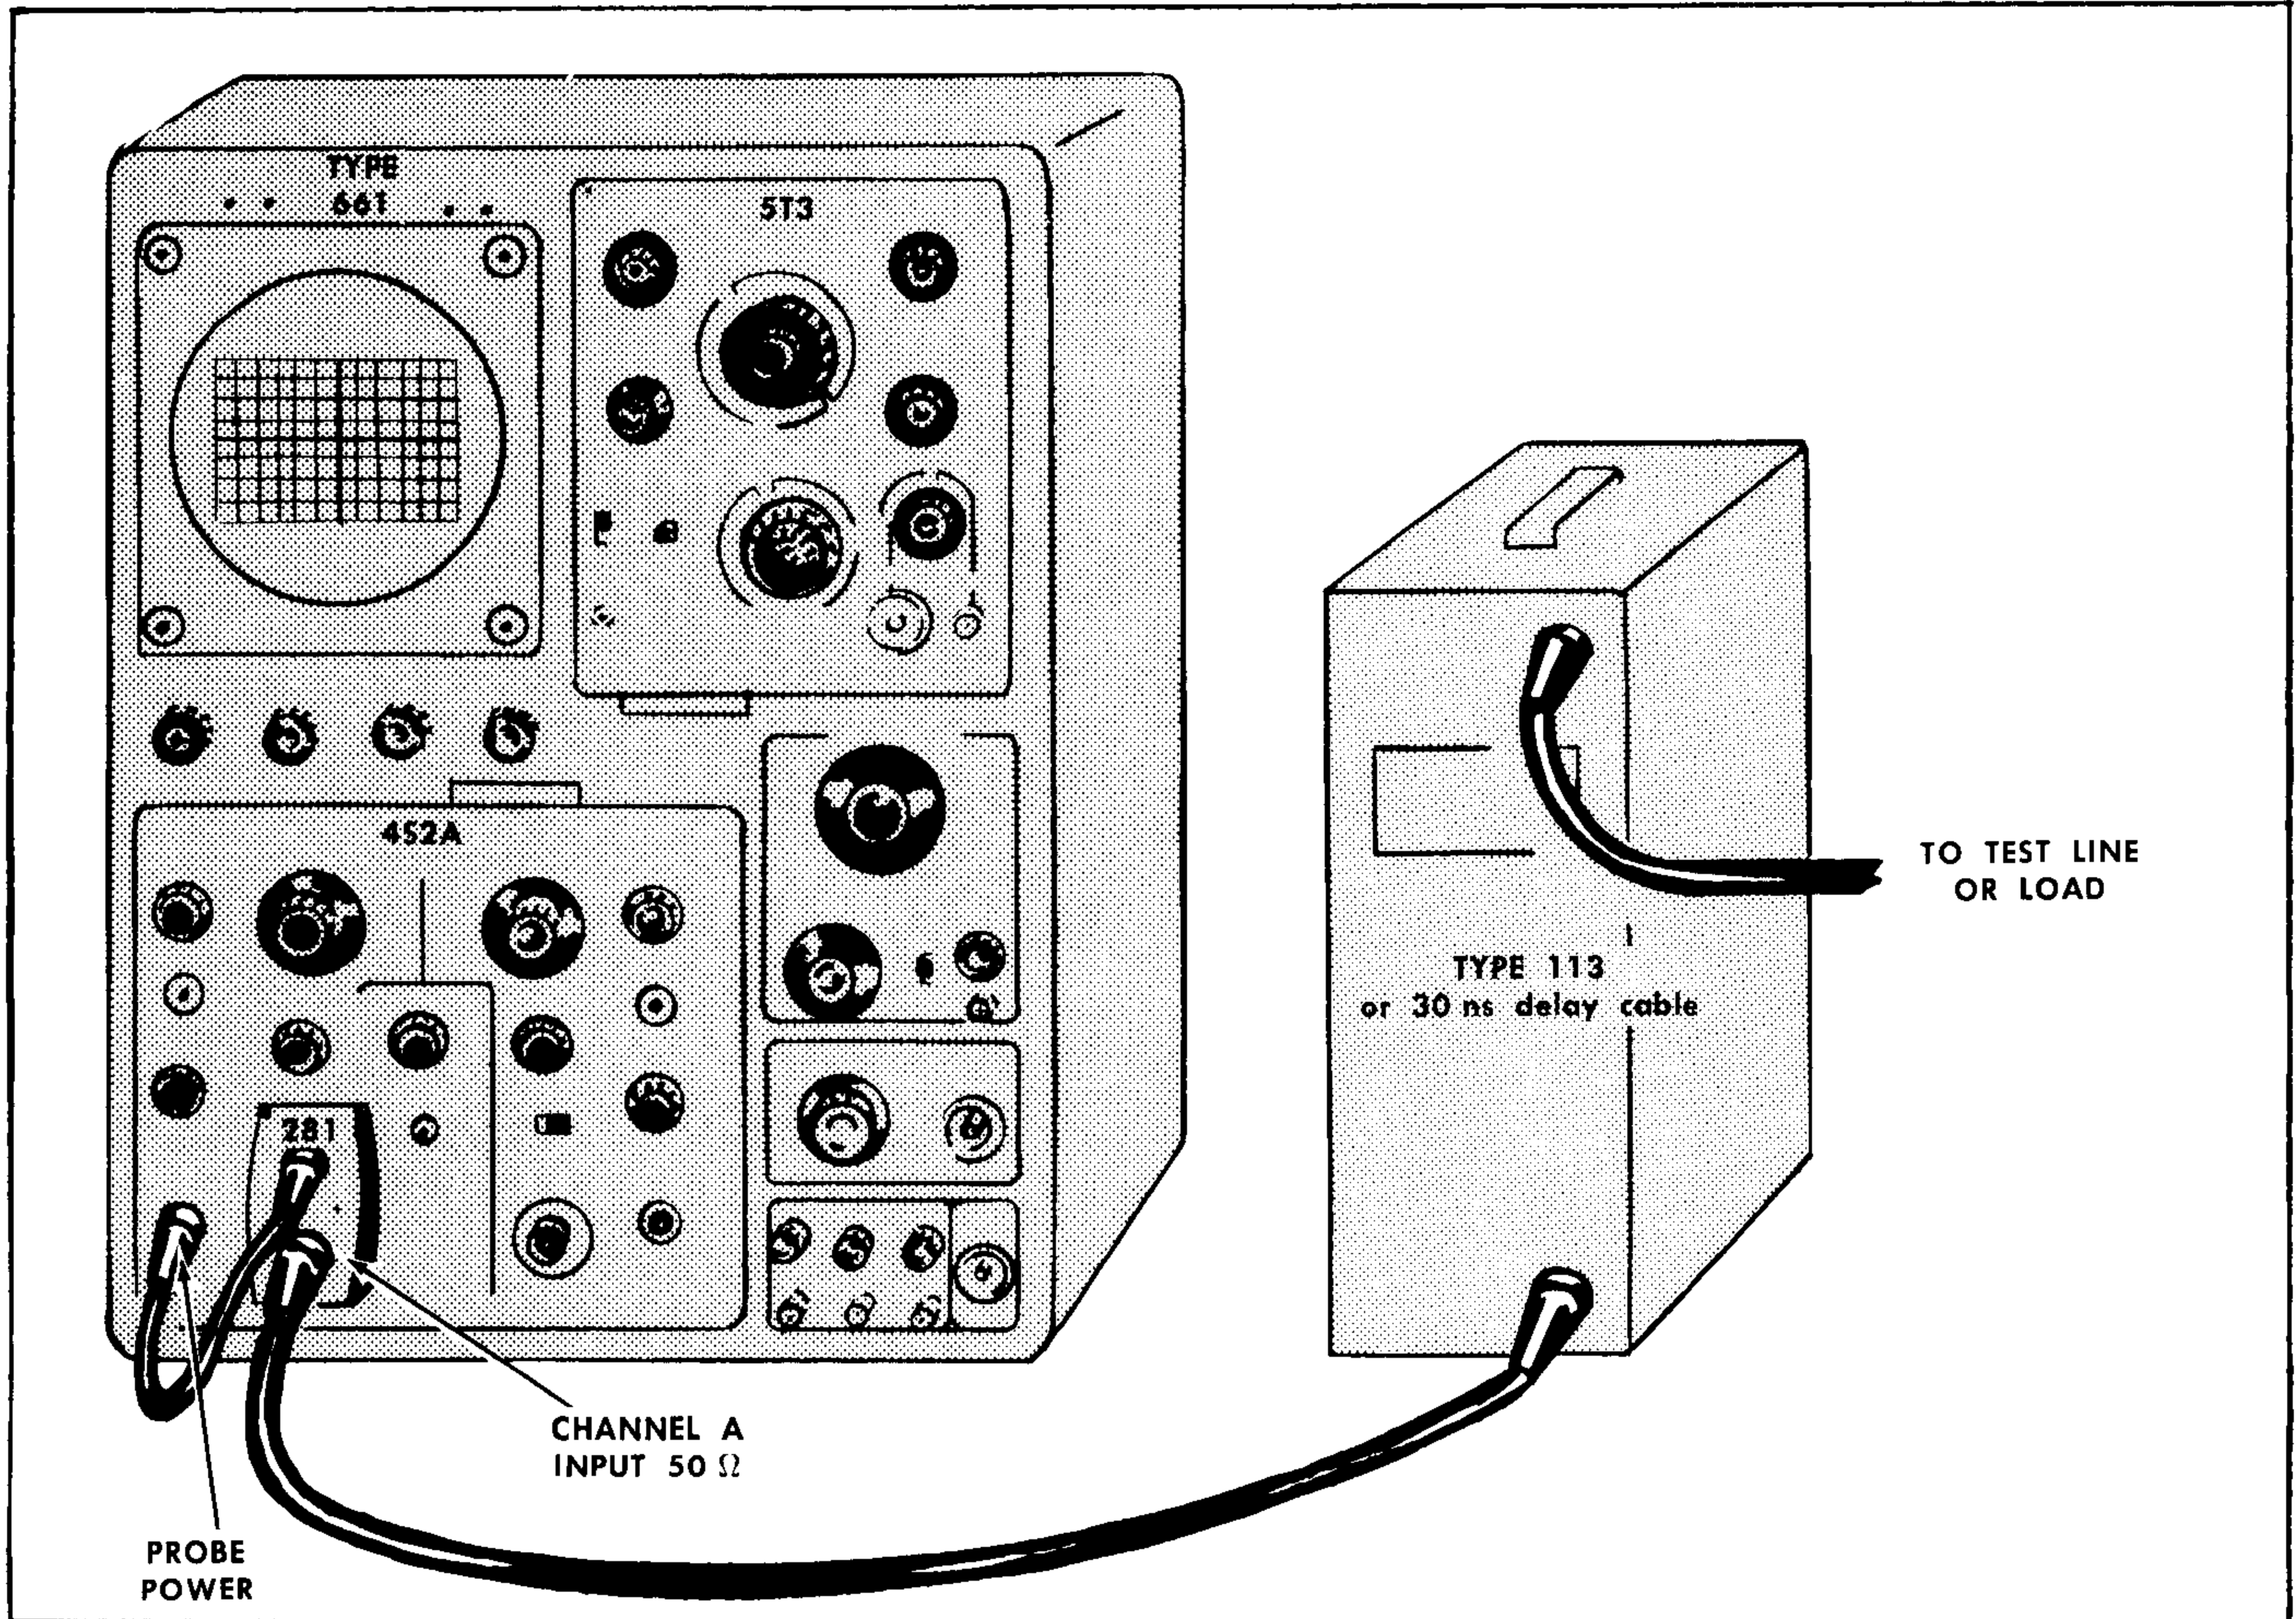

Fig. 2-27. Test setup for making TDR measurements with Type 281 TDR Pulser.
Pulsing the Transmission Line (2). Another setup for making pulse reflection measurements is shown in Fig. 2-27. A Tektronix Type 281 TDR Pulser is plugged into the Type 4S2A Channel A INPUT 50 Ω connector and power for the Type 281 is taken from the 4S2A PROBE POWER connector. The free connector of the Type 281 is connected through a 30 ns line or a Tektronix Type 113 delay cable to the test line or load.